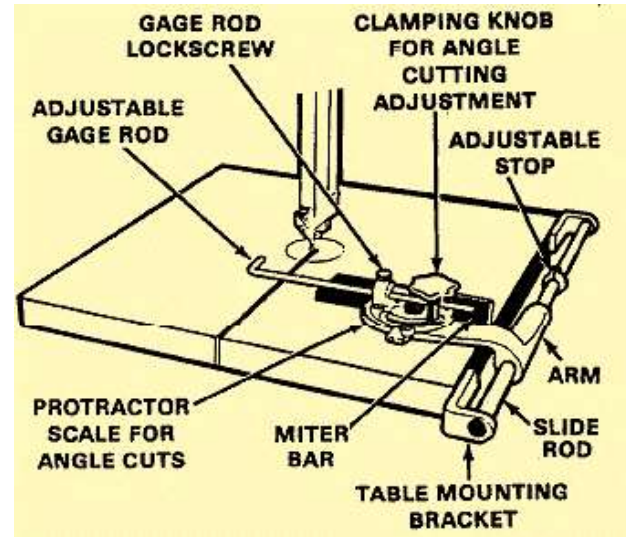

Figure 6-14. Miter guide attachment.
**Miter Guide Attachment:** Is illustrated in Figure 6-14. The workpiece is supported against the miter head which attaches to the slide arm. The attachment can be set at an angle with a protractor, using the table slot as a reference line. A gage rod can be extended from the attachment and used as a stop when identical lengths are sawed. When not in use, swing the attachment on the slide rod so that it hangs below the table.